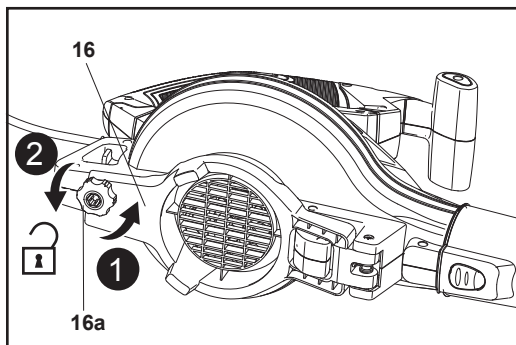

Fig. 4
5. Unscrew the locking knob (16a) anticlockwise, then pull out the impeller cover (16) (Fig. 4, steps 1, 2) and hold it in place.